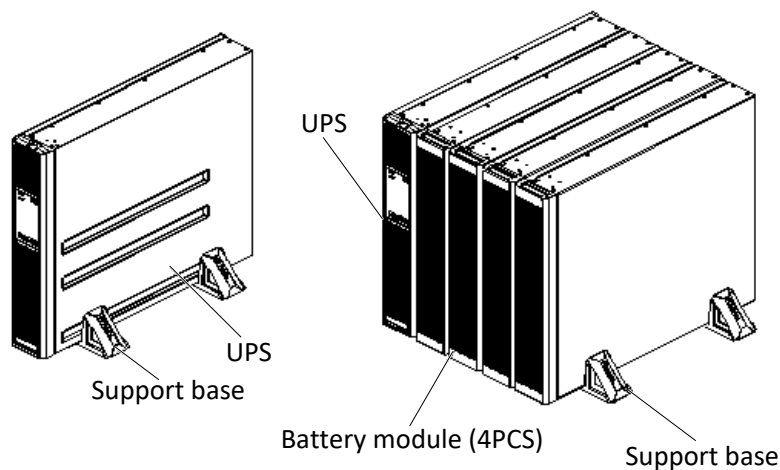

Figure 2-6 UPS and battery modules Installation complete
3. Place the UPS on the support bases and support base extensions, as shown in Figure 2-6. The two sets of support bases are placed as far apart as possible to prevent the UPS from toppling. It is recommended to maintain a 70mm distance between the front and rear panels of UPS and the corresponding support bases.